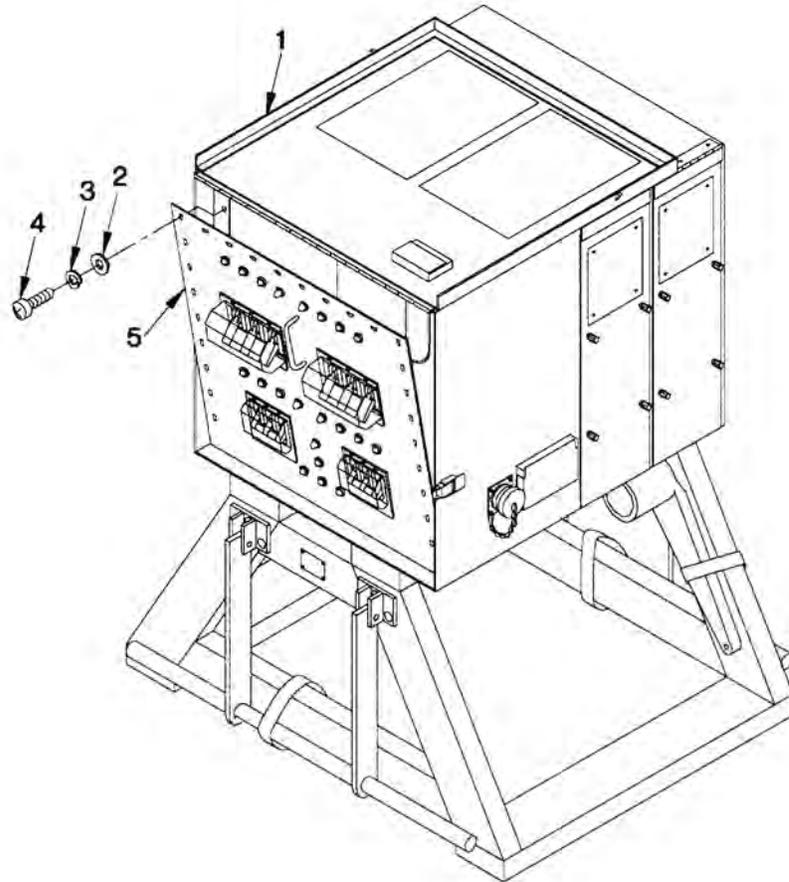

Figure 1. Protective Boot, Circuit Breaker Panel.
1. Open circuit breaker access cover (1) on front panel and secure it in open position.
2. Remove and retain 36 screws (Figure 1, Item 4), lock washers (Figure 1, Item 3) and flat washers (Figure 1, Item 2) on top, bottom, and sides of circuit breaker panel (Figure 1, Item 5) that secure panel to Power Distribution Box.
3. Open circuit breaker panel (Figure 1, Item 5) downward until lanyards are fully extended or remove lanyards for full access as required.
4. Close circuit breaker panel (Figure 1, Item 5) and secure it by installing 36 ea. flat washers (Figure 1, Item 2), lock washers (Figure 1, Item 3) and screws (Figure 1, Item 4) on top and sides of panel.
6. Close access cover (Figure 1, Item 1) and secure it by locking latches.